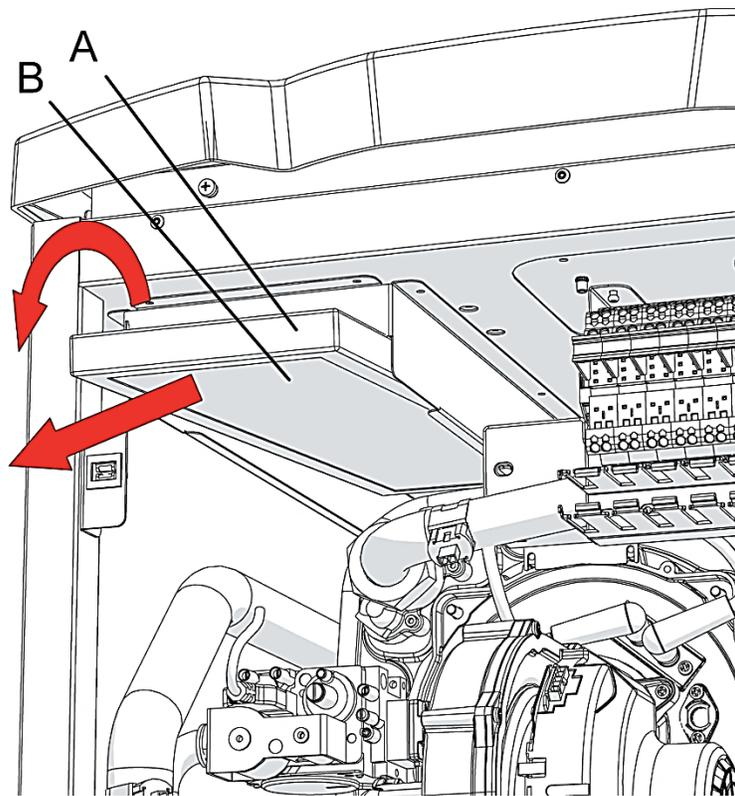

Figure 10-8: Removing the Air Filter for Cleaning
2. Pull down with a rotating motion the air filter “B” as per Figure 10-8.